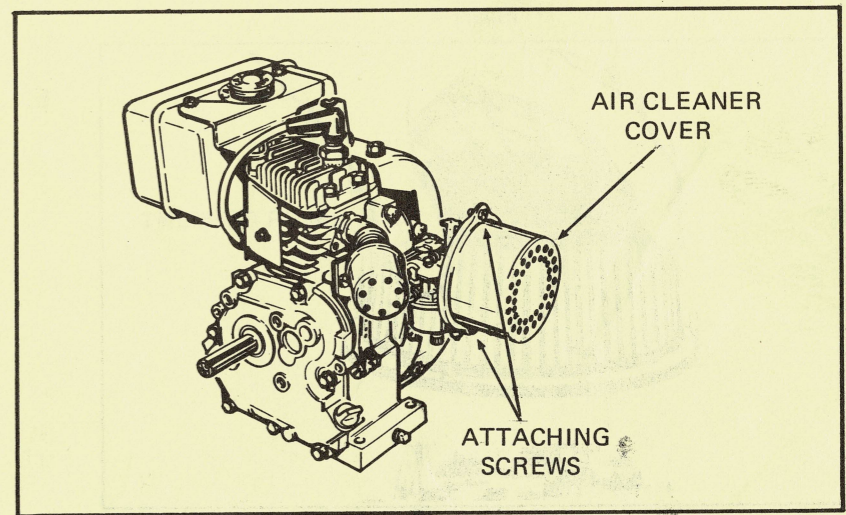

Figure 2
- 3. CHECK AIR CLEANER (Fig. 2) - BE SURE IT IS IN PLACE AND COVER IS SECURELY LOCKED IN PLACE. IT IS A PAPER ELEMENT TYPE CLEANER WHICH WILL REDUCE ENGINE POWER WHEN IT BECOMES CLOGGED WITH DIRT. REFER TO D (PAGE 2) FOR AIR CLEANER MAINTENANCE.